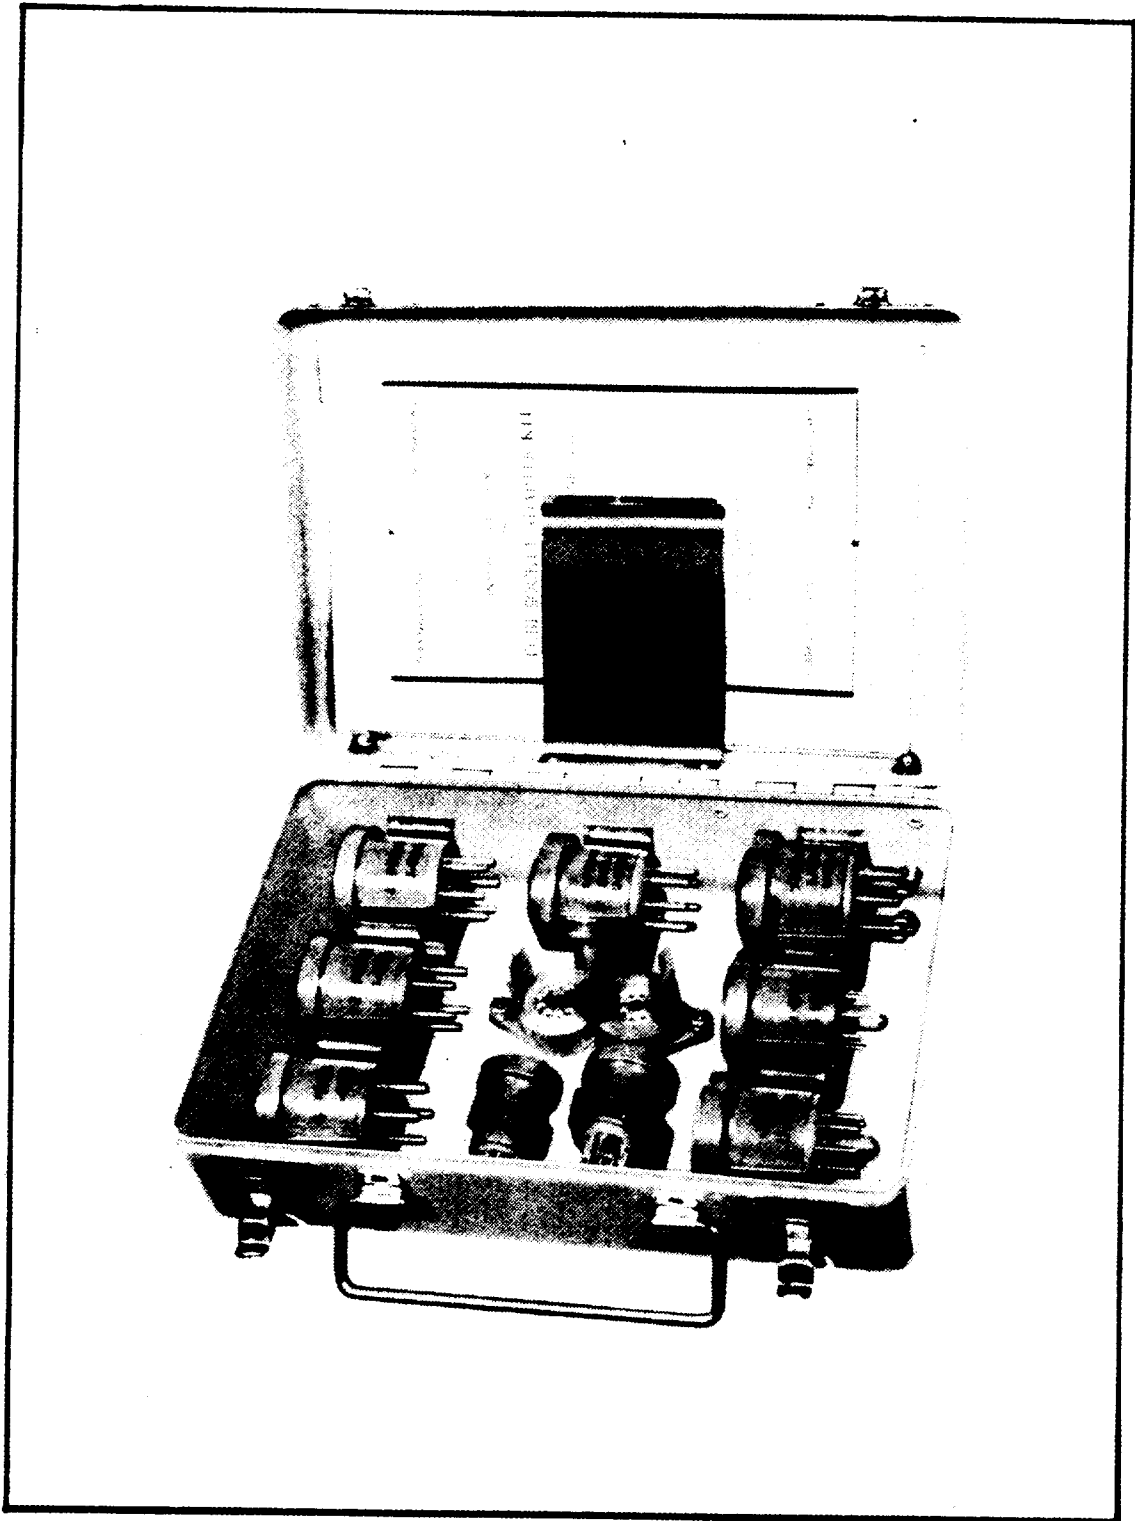

Figure 1-1. Tube Socket Adapter Kit MX-1258/U
b. This Tube Socket Adapter Kit is intended for use in general electronics testing of equipment employing electron tubes. The nine adapters contained in the kit provide the facility for testing circuit conditions with practically all of the commonly used electron tubes. Figure 1-1 shows a $\frac{3}{4}$ view of the assembled kit.